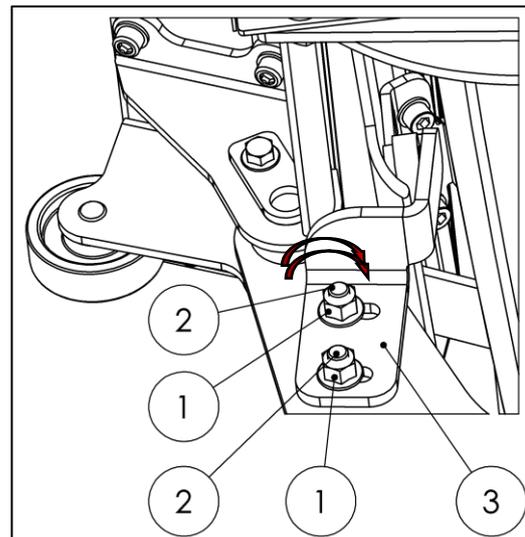

Fig. 86
- Tighten the nuts (1) and bolts (2) on the stopper (3) to a torque of 80 Nm (see Fig. 86).